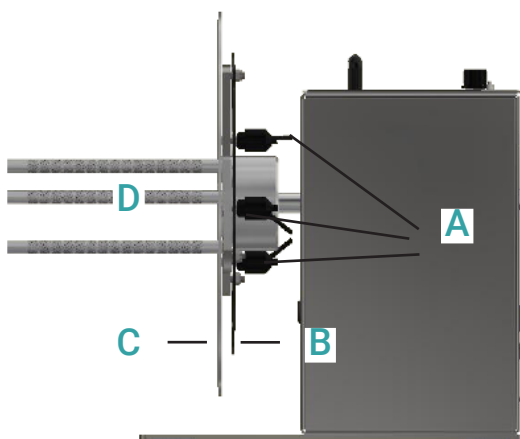

FIG. 3
- The CAT-3-ACH (FIG.3) employs an adjustable core holder enabling the use of varying core sizes, for maximum flexibility
- ACH (FIG.3): Slide the Hub of the ACH over the motor Shaft of the CAT. Position the Hub so there is a gap between the ACH Hub and the Rewinder Drive Unit case. Tighten the set Screw onto the flat part of the Motor Shaft until it is tight.
USING THE ACH (FIG.3)